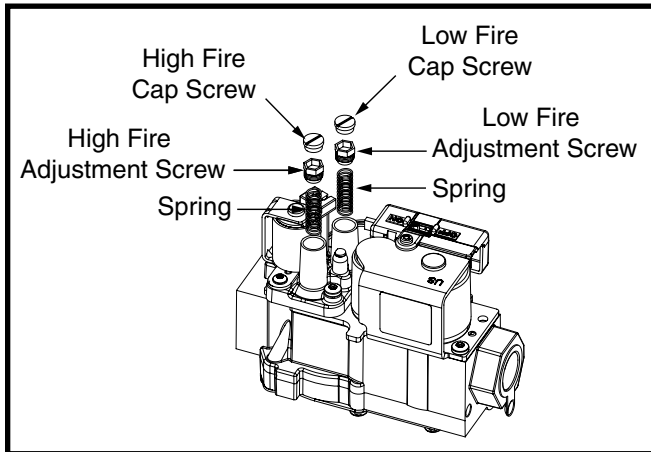

Figure 2. Gas Valve Conversion
8. Remove the HIGH fire cap screw. See Figure 2 (page 3).
1. Using the supplied Torx-25 Wrench, slowly turn the adjustment screw till the appropriate manifold pressure listed in Table 2 is achieved. See Figure 2.